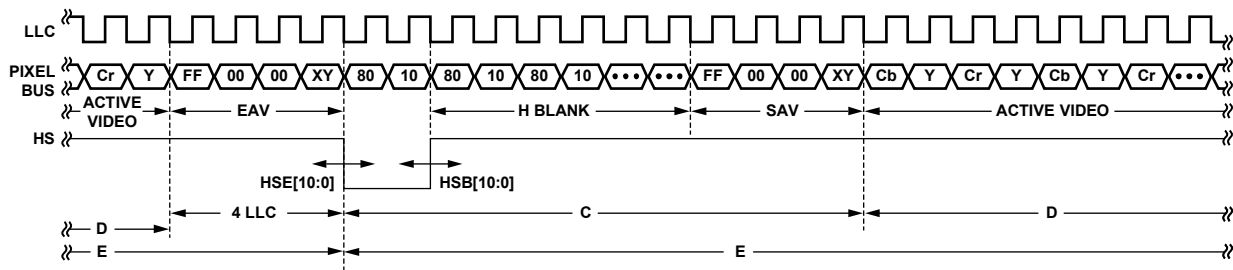

Figure 37. HS Timing
The position of this edge is controlled by placing a binary number into HSB[10:0]. The number applied offsets the edge with respect to an internal counter that is reset to 0 immediately after EAV Code FF, 00, 00, XY (see Figure 37). HSB is set to 00000000010b, which is two LLC clock cycles from count [0].
The position of this edge is controlled by placing a binary number into HSE[10:0]. The number applied offsets the edge with respect to an internal counter that is reset to 0 immediately after EAV Code FF, 00, 00, XY (see Figure 37). HSE is set to 00000000000b, which is 0 LLC clock cycles from count [0].
**Table 64. HS Timing Parameters (See Figure 37)**
|          | HS Begin Adjust HSB[10:0] (Default) | HS End Adjust HSE[10:0] (Default) | HS to Active Video LLC Clock Cycles, C in Figure 37 (Default) | Active Video Samples/Line, D in Figure 37 | Total LLC Clock Cycles, E in Figure 37 |